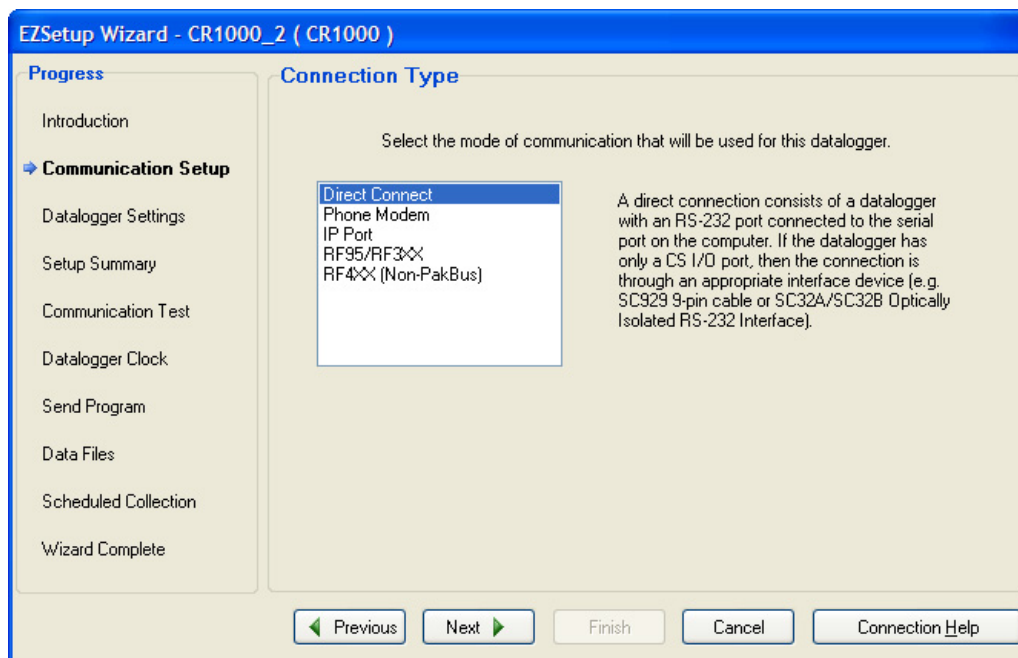

FIGURE 3-2. Point-to-Point or PakBus communications, select direct connect as the connection type.
- a. The next step is to run LoggerNet and configure it to connect to the datalogger via the radio’s point-to-point or PakBus network you have set up. For point-to-point and PakBus communications, the radios are represented as direct connect in LoggerNet (see FIGURE 3-2). Refer to Section 5.2, *LoggerNet (p. 29)*, for the LoggerNet setup of point-to-multipoint.